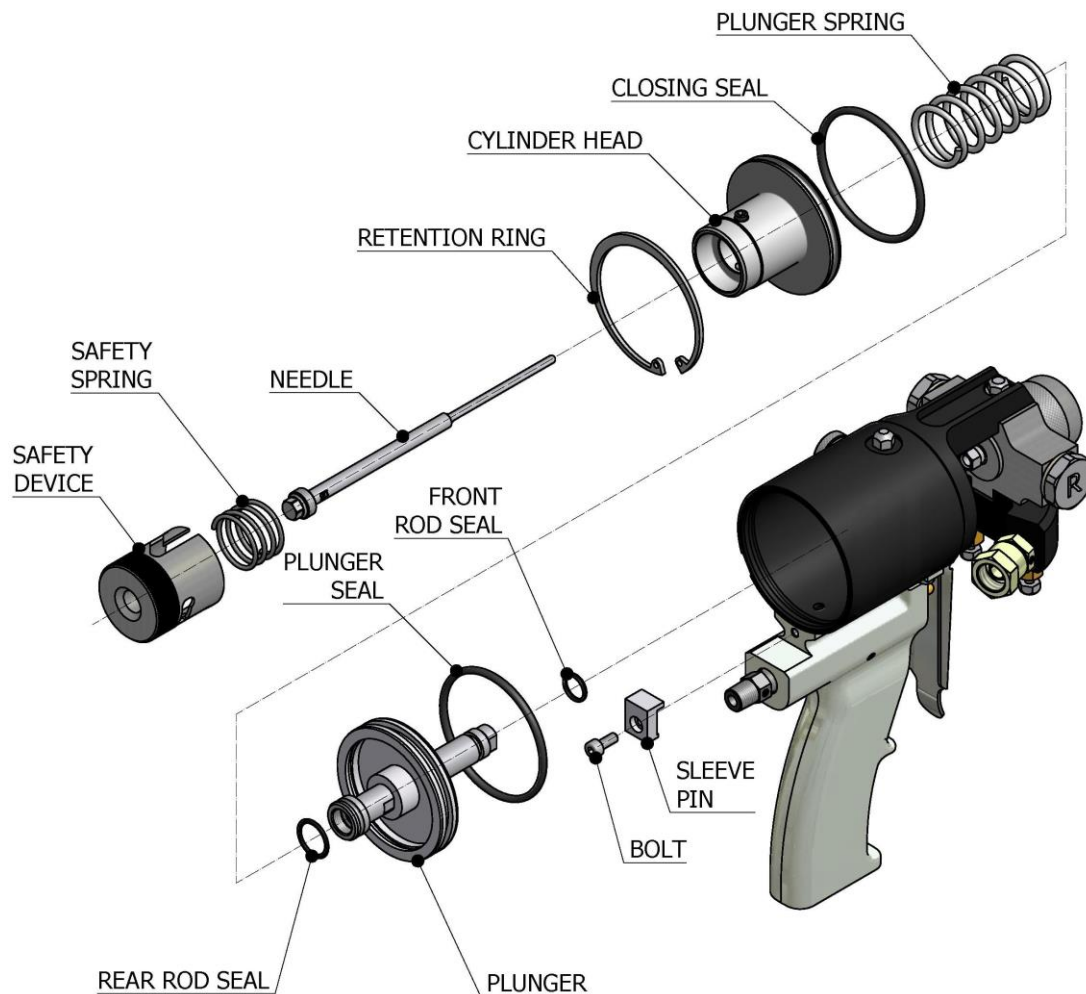

Figure. 22
4. Unscrew the bolt fixing the sleeve pin at the rear of the gun (see **Figure. 22**, page 28).
5. Remove the retention ring that positions the cylinder head with pliers for removing seeger rings (see **Figure. 22**, page 28).
6. Remove the pneumatic cylinder head (see **Figure. 22**, page 28).
8. Pull hard on the plunger to remove the whole unit from the cylinder sleeve. Also remove the plunger spring (see **Figure. 22**, page 28).